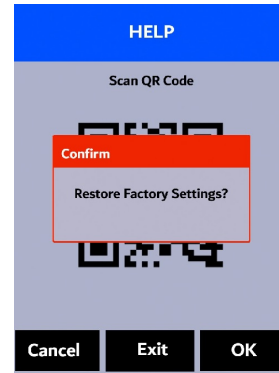

Figure 12.
6. Press **Factory Reset** (**<** or **>**). The display updates as shown in Figure 12 appear and the user can choose one of three options: